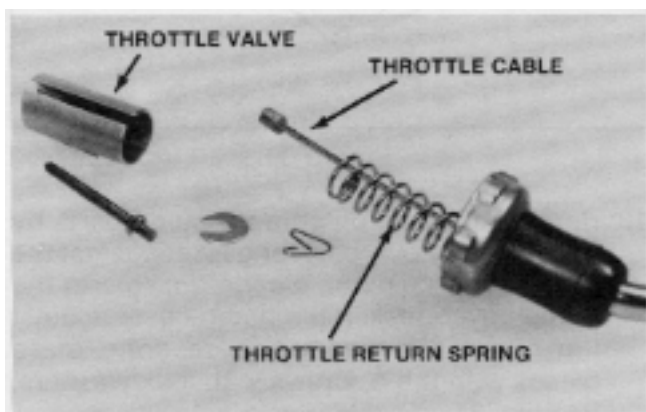

Figure 25
6. If it is necessary to remove the throttle parts from the throttle cable perform the following. Compress the throttle return spring and pull the lead-lugged end of the cable from the slot in the throttle valve. Remove the throttle spring from throttle cable. From the throttle valve, push out the retainer and the needle jet assembly. See Fig. 25.